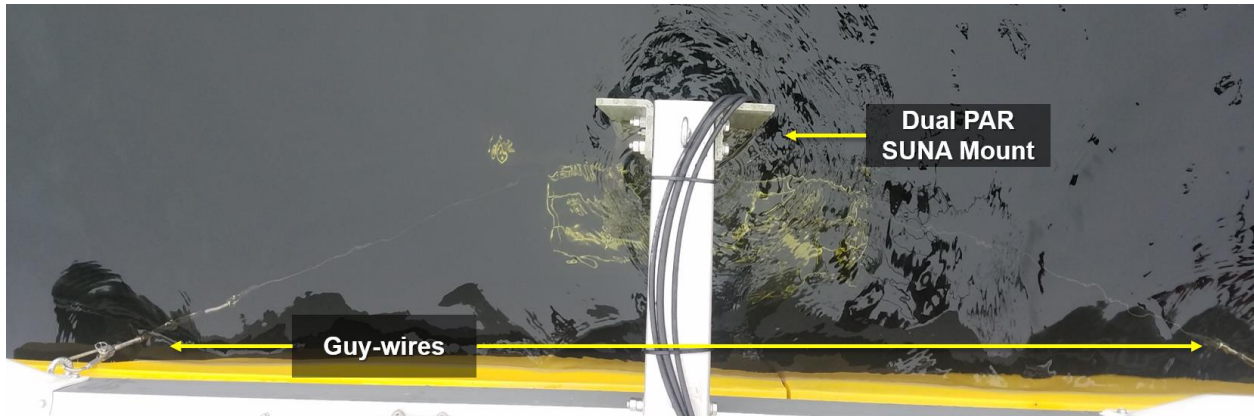

Figure 16. Looking Down on the Dual PAR SUNA Mount and Guy-wires
- c. Ensure the guy-wire jam nuts are tight after resetting the dual PAR SUNA mount in the water (see Figure 16). The jam nut enables the turnbuckle to be secure post-tightening.